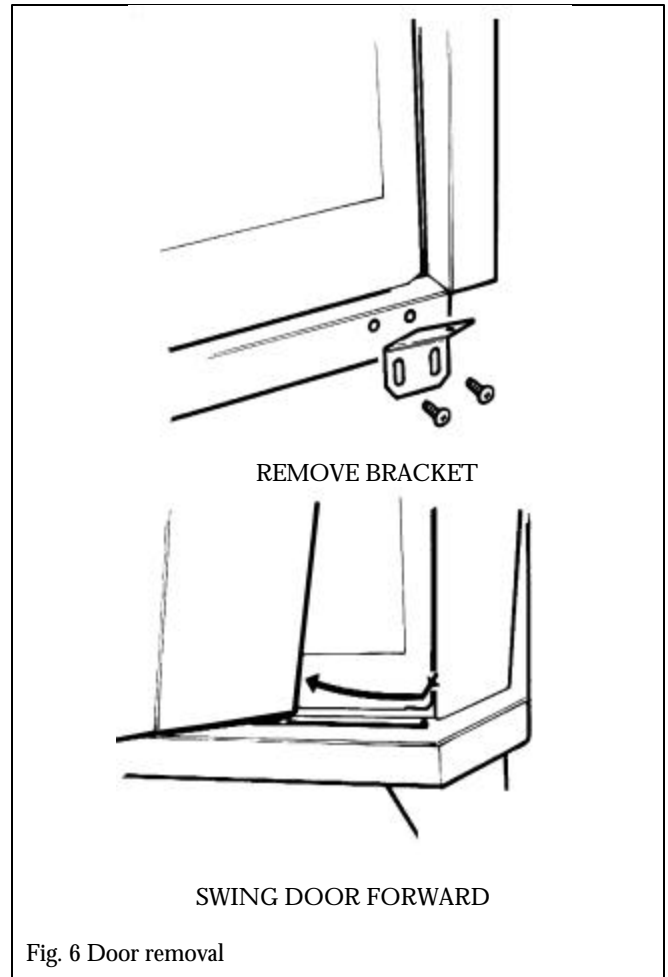

Fig. 6 Door removal
right corner of the appliance main unit) by removing two screws (see figure 6).
- 8.2.2** Swing the bottom of the door forward to release the bottom pin from the slot in the case and lift the door clear (see figure 6).